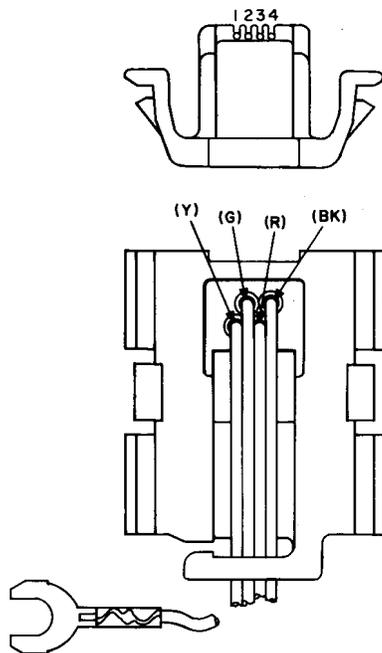

Fig. 7—523A-Type Plug
2.07 523A-Type: The 523A-type (Fig. 7) are molded type plugs with leads.